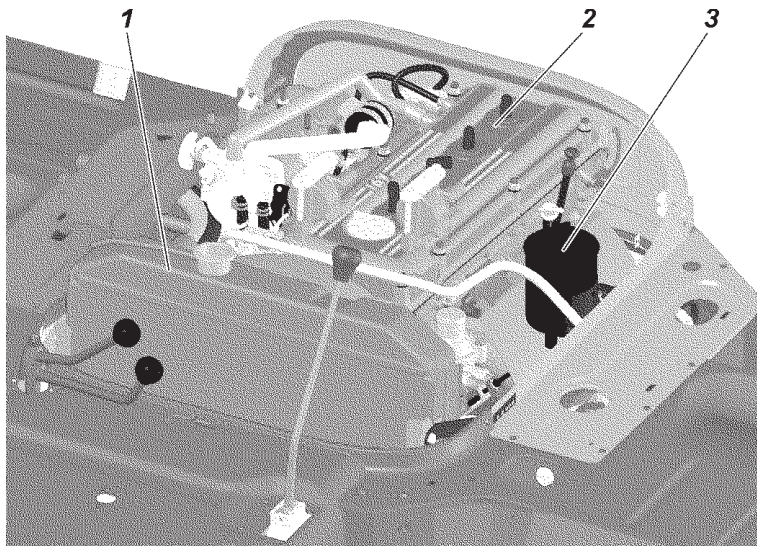

Fig. 9.26. Under Hood Space:
**Hydraulic power steering oil: level check and change.** To check the oil level in oil tank 3 (Fig. 9.26) place the front wheels straight. Pour the oil into the oil tank up to the level of the filling strainer screen. Beforehand run the oil through the filter with the maximum pour size of 40  $\mu\text{m}$ .